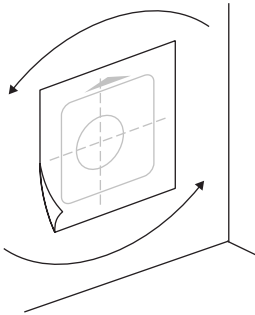
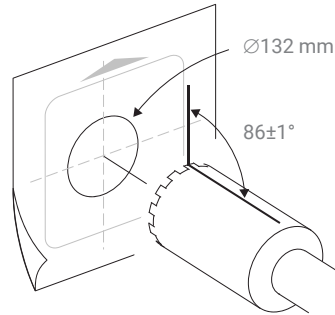

Figure 6.2.
Figure 6.3.
- Position the mounting template according to the selected type of device orientation (Figure 6.2). Place the mounting template on the wall and mark out the location for drilling the air duct²⁶. Drill an air duct according to the requirements shown in Figure 6.3. Use an industrial vacuum cleaner with a water catcher ring to prevent spoiling of the interior decoration.